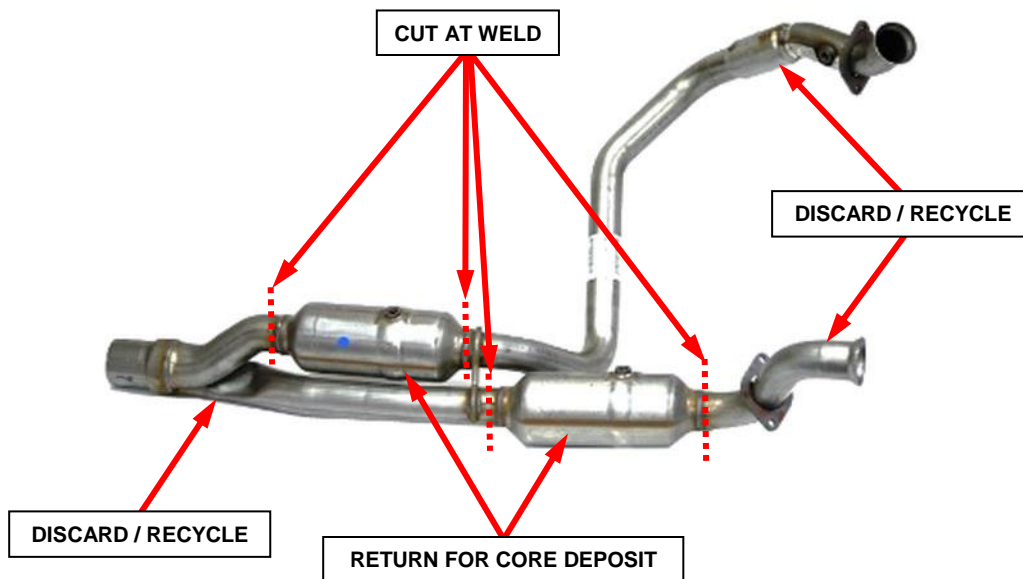

Figure 9 – Remove Pipes from Catalyst for Core Return
1. Cut the inlet and outlet pipes off of the catalyst as close to the pipe weld as possible (Figure 9).
2. Return only the catalyst section for core deposit credit. Discard / recycle the pipes cut off of the catalyst section (Figure 9).